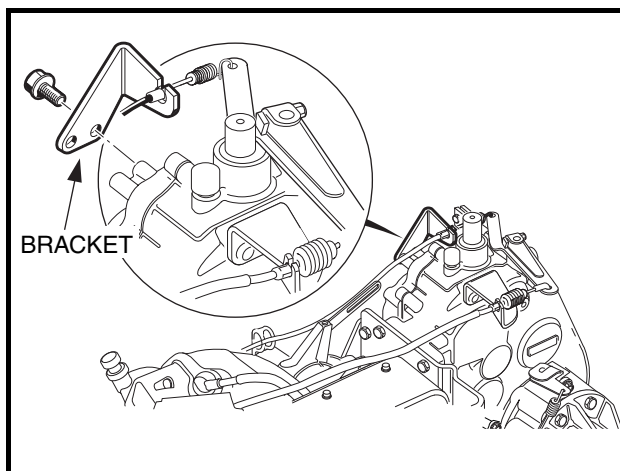

Figure 16-38 Accelerator Cable Bracket
20. Remove screws securing the accelerator cable bracket to transaxle (**Figure 16-38, Page 16-16**). See following **NOTE**.
7. Install the accelerator cable bracket on transaxle case and tighten screws to 134 in-lb (15.1 N·m) (**Figure 16-38, Page 16-16**).